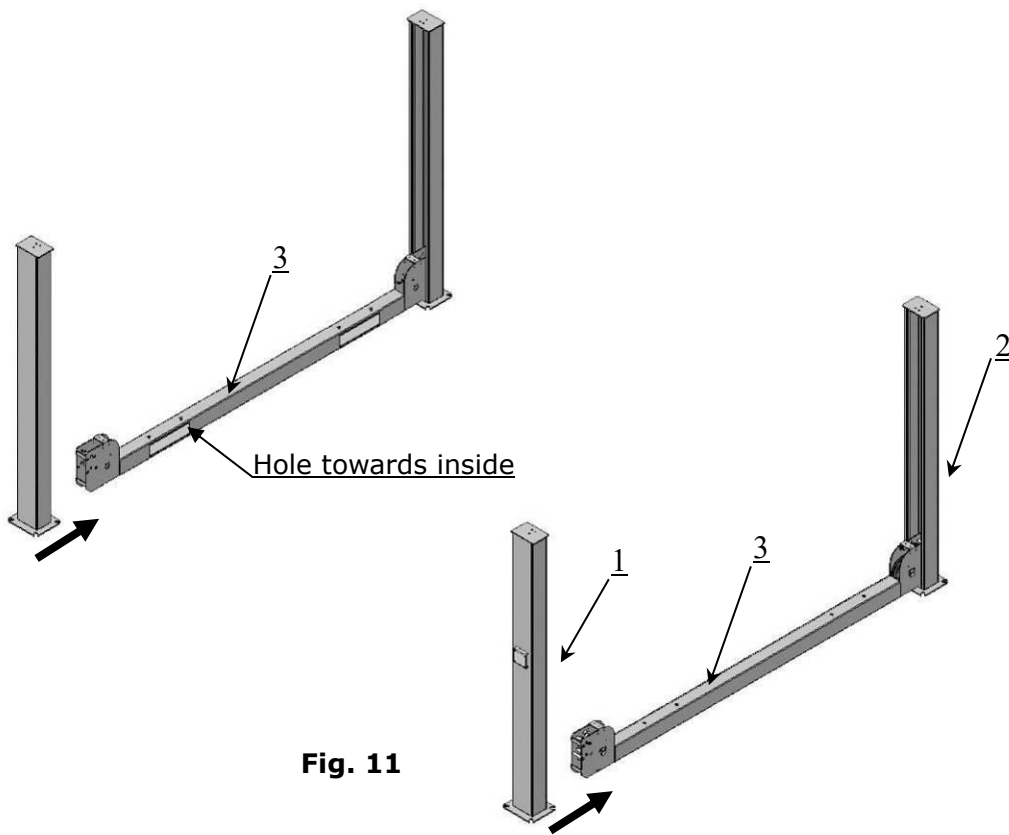

Fig. 11
D. Install cross beams (See Fig. 11, Fig. 12).